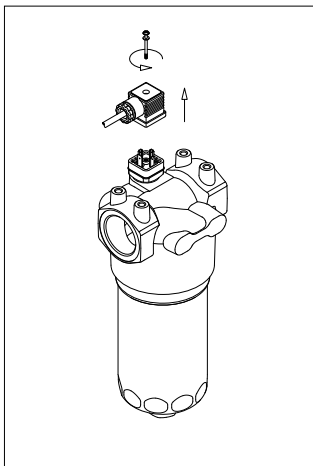
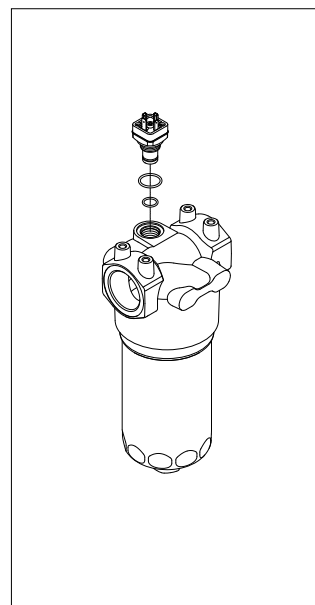

fig. 9
fig. 22
- (Fig. 9) Remove the connector of the differential indicator by unfastening the central screw (only for electrical indicators)
- (Fig. 22) Replace the O-rings of the indicator body. For the mounting/dismounting of the indicator, please refer to the paragraph "Clogging indicator replacement" above (Fig. 9÷12)